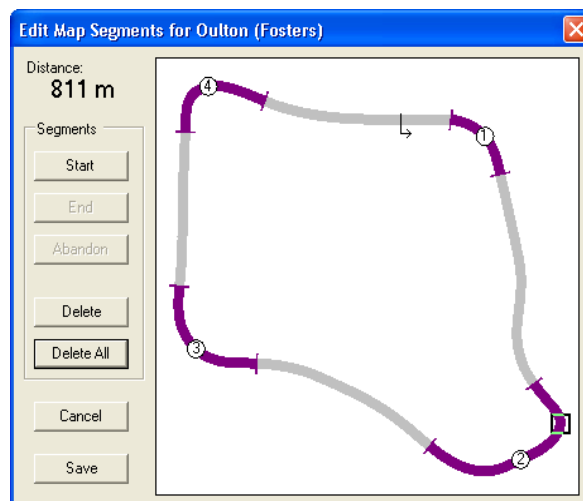

Figure 27 - Edit Map Segments Dialog (Deleting a Segment)
3. Place the cursor over the segment to be deleted by clicking the map anywhere in the segment. The **Delete** button is enabled (see Figure 27).